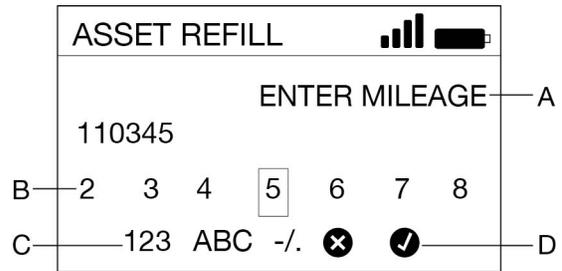

FIG. 39
5. If the asset is configured to require reference data enter the data using the keypad (FIG. 39).